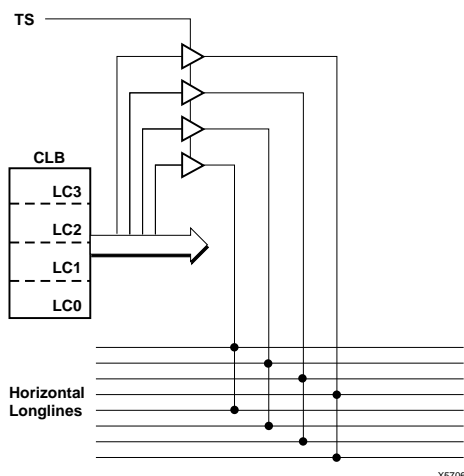

Figure 8. XC5200 3-State Buffer
The XC5200 family has four dedicated TBUFs per CLB. The four buffers are individually configurable through four configuration bits to operate as simple non-inverting buffers or in 3-state mode. When in 3-state mode the CLB's output enable (TS) control signal drives the enable to all four buffers (see Figure 8). Each TBUF can drive up to two horizontal Longlines